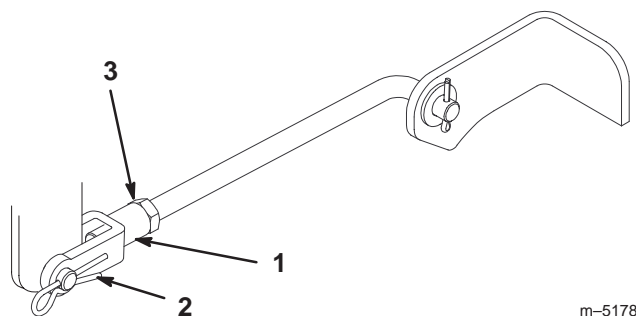

Figure 42
7. To adjust the front-to-rear blade slope, remove the hairpin cotter from the front trunion yokes and loosen the jam nuts (Fig. 42).
8. Rotate the yokes on the rods to change the adjustment (Fig. 42). To raise the front of the mower, tighten the yokes (shorten the rods). To lower the front of the mower, loosen the yokes (lengthen the rods).